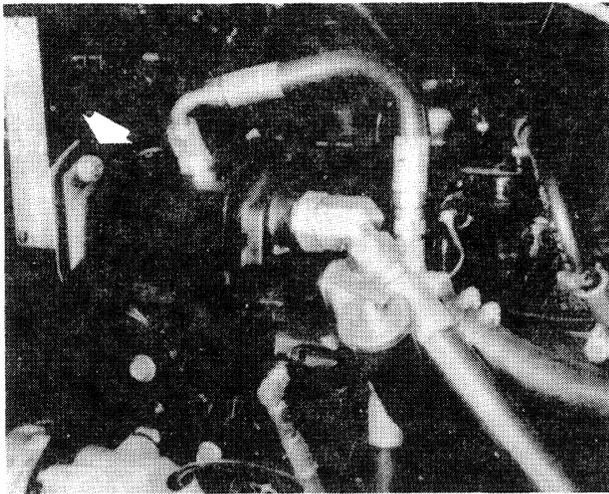

FIGURE 2-10: Hydraulic Pump Removal
13. Remove mounting capscrews securing hydraulic pump to the engine. Pull pump back disengaging pump drive gear teeth from engine gear. Remove hose clamp securing pump suction hose from the engine, and swing pump with the hoses to the side (Figure 2-10).
8. Install hydraulic pump to the engine. Ensure that the teeth on the pump gear align with the engine gear teeth (Figure 2-10).